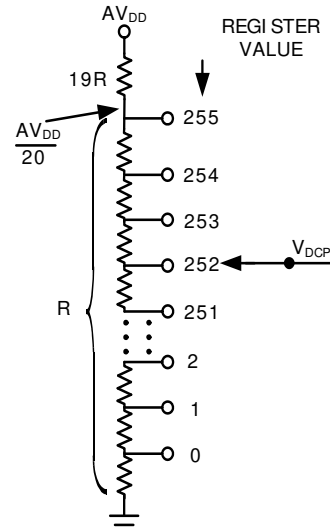
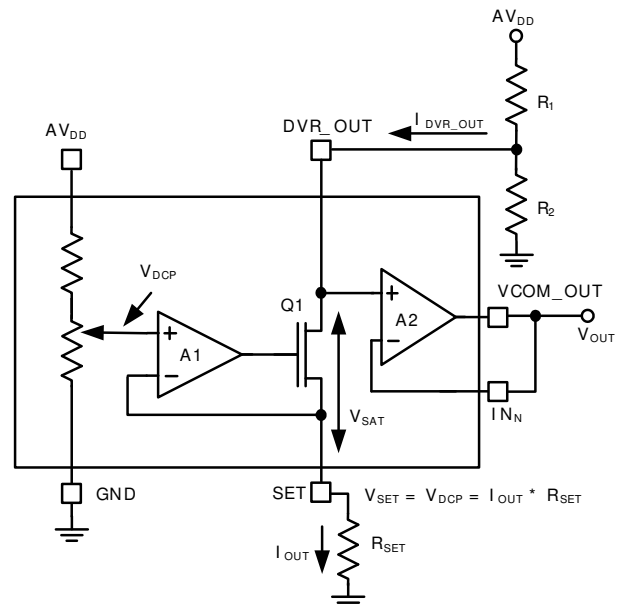

FIGURE 4. SIMPLIFIED SCHEMATIC OF DCP
FIGURE 5. CURRENT SINK CIRCUIT
**Electrical Specifications** Test Conditions: VDD = 3.3V, AVDD = 18V, RSET = 5k $\Omega$ , R1 = 10k $\Omega$ , R2 = 10k $\Omega$ , (See Figure 5), VCOM\_OUT pin connected to INN, unless otherwise specified. Typicals are at TA = +25°C. **Boldface limits apply over the operating temperature range, -40°C to +85°C.**
**Electrical Specifications** Test Conditions:  $V_{DD} = 3.3V$ ,  $AV_{DD} = 18V$ ,  $R_{SET} = 5k\Omega$ ,  $R_1 = 10k\Omega$ ,  $R_2 = 10k\Omega$ , (See Figure 5),  $V_{COM\_OUT}$  pin connected to  $IN_N$ , unless otherwise specified. Typical values are at  $T_A = +25^\circ C$ . **Boldface limits apply over the operating temperature range,  $-40^\circ C$  to  $+85^\circ C$ .** (Continued)
The ISL24212 uses a digitally controllable potentiometer (DCP), with 256 steps of resolution (see Figure 4) to change the current drawn at the DVR\_OUT pin, which then changes the voltage created by the  $R_1 - R_2$  resistor divider (see Figure 5). The DVR\_OUT voltage is then buffered by A2 to generate a buffered output voltage at the  $V_{COM\_OUT}$  pin, capable of directly driving the  $V_{COM}$  input of an LCD panel. The amount of current sunk is controlled by the setting of the DCP, which is recalled at power-up from the ISL24212's internal EEPROM. The EEPROM is typically programmed during panel manufacture. As noted in the "Electrical Specifications" on page 4, the ISL24212 requires a minimum  $AV_{DD}$  voltage of 10.8V for EEPROM programming, but will work in normal operation down to 4.5V after the EEPROM has been programmed, with no additional EEPROM writing.
The DCP controls the voltage that ultimately controls the SET current. Figure 4 shows the relationship between the register value and the DCP's tap position. Note that a register value of 0 selects the first step of the resistor string. The output voltage of the DCP is given in Equation 1:
Figure 5 shows the schematic of the DVR\_OUT current sink. The combination of amplifier A1, transistor Q1, and resistor  $R_{SET}$  forms a voltage-controlled current source, with the voltage determined by the DCP setting.
With amplifier A2 in the unity-gain configuration ( $V_{COM\_OUT}$  tied to  $IN_N$  as shown in Figure 5),  $V_{DVR\_OUT} = V_{COM\_OUT} = V_{COM}$ .